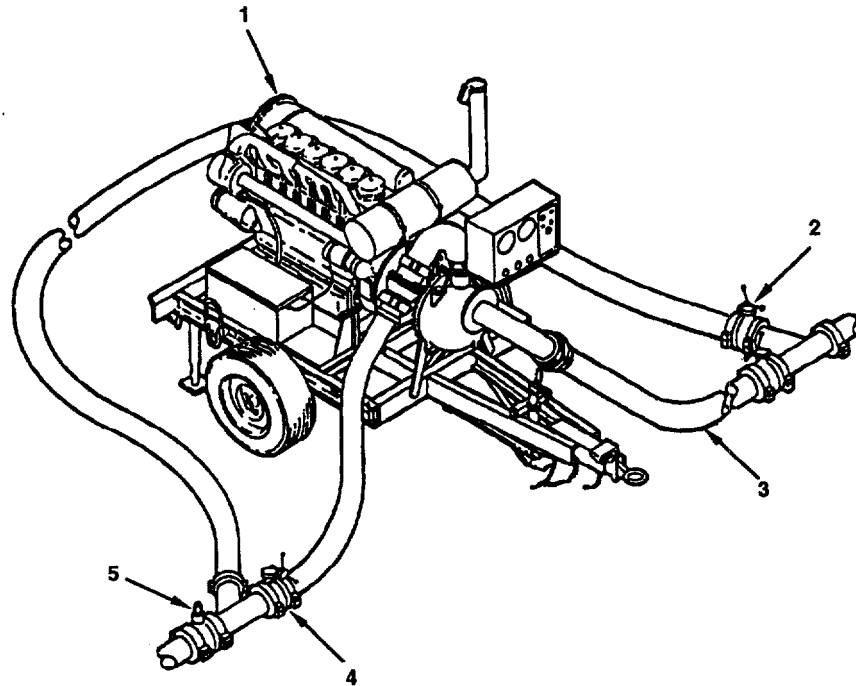

Figure 2-3. Operator's Controls and Indicators for TWDS Boost Pumping Station.
2.1.3 **Boost Pumping Station.** See figure 2-3 and table 2-3.